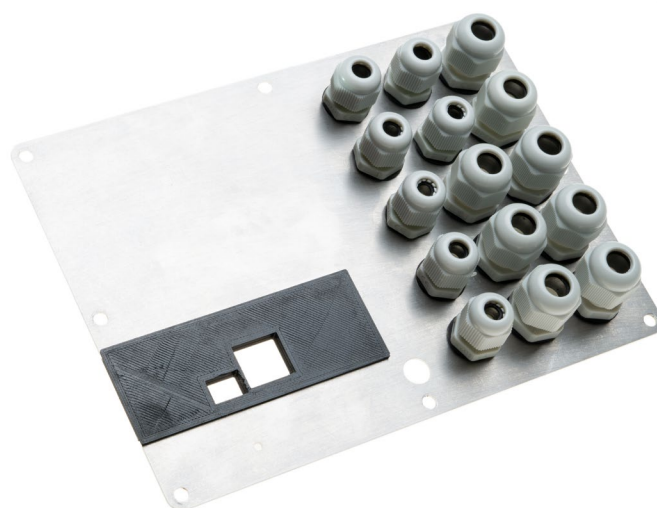

Fig. 5: Always install unused screw connections as well in order to close all openings.
- Place the 3D-printed front cover that you received with the adapter module into the cut-out of the connection panel. See Fig. 5.